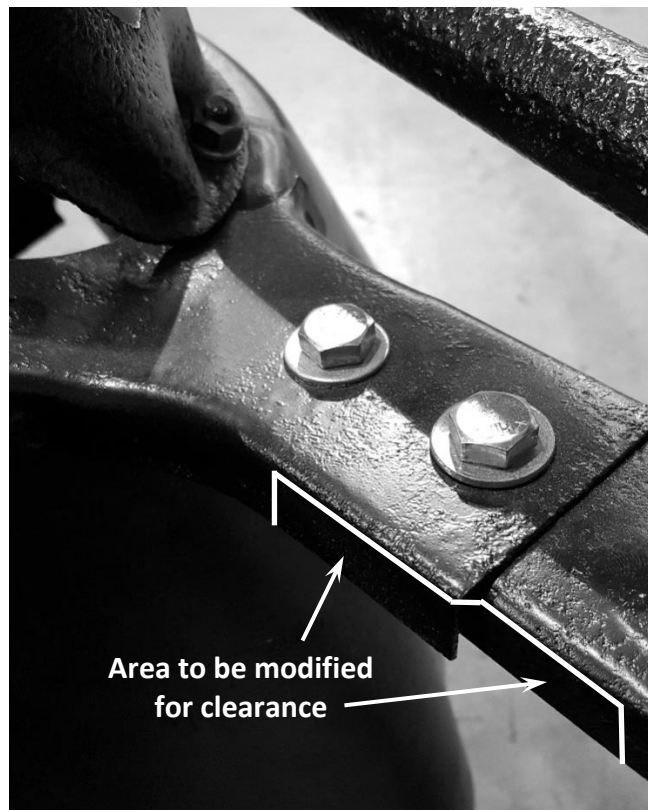

Figure 4 – Shock Tower Brace Modification
- a. Figure 4 below shows the area on the shock tower brace that will possibly require modification. **NOTE:** If modification is necessary, remove only the material necessary to allow for clearance of the master cylinder along with the removal of the cap.